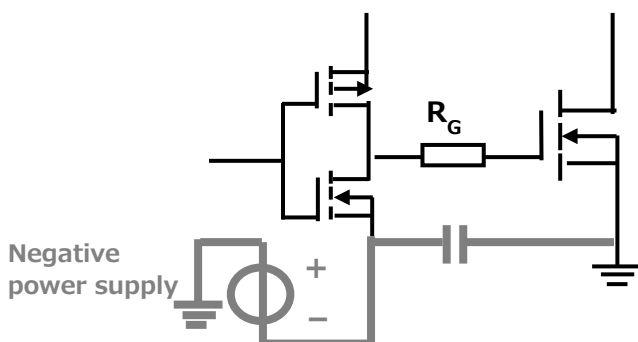

Figure 3.3 Using a negative gate power supply
- Use a negative gate voltage. (Figure 3.3)